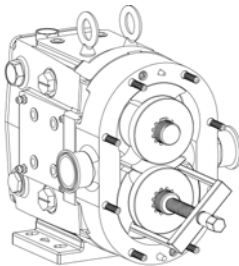

Figure 26: Removing Rotors (Gear Puller)
4) Remove the rotors by orientating them perpendicular to each other and then pulling them out. It is important to be cautious with the rotors so that they are not damaged. If rotors are difficult to remove, use a nylon or wood lever to pry them out without damaging the body or the rotors. If needed, use a gear puller in orientation shown in Figure 26 and handle with caution.